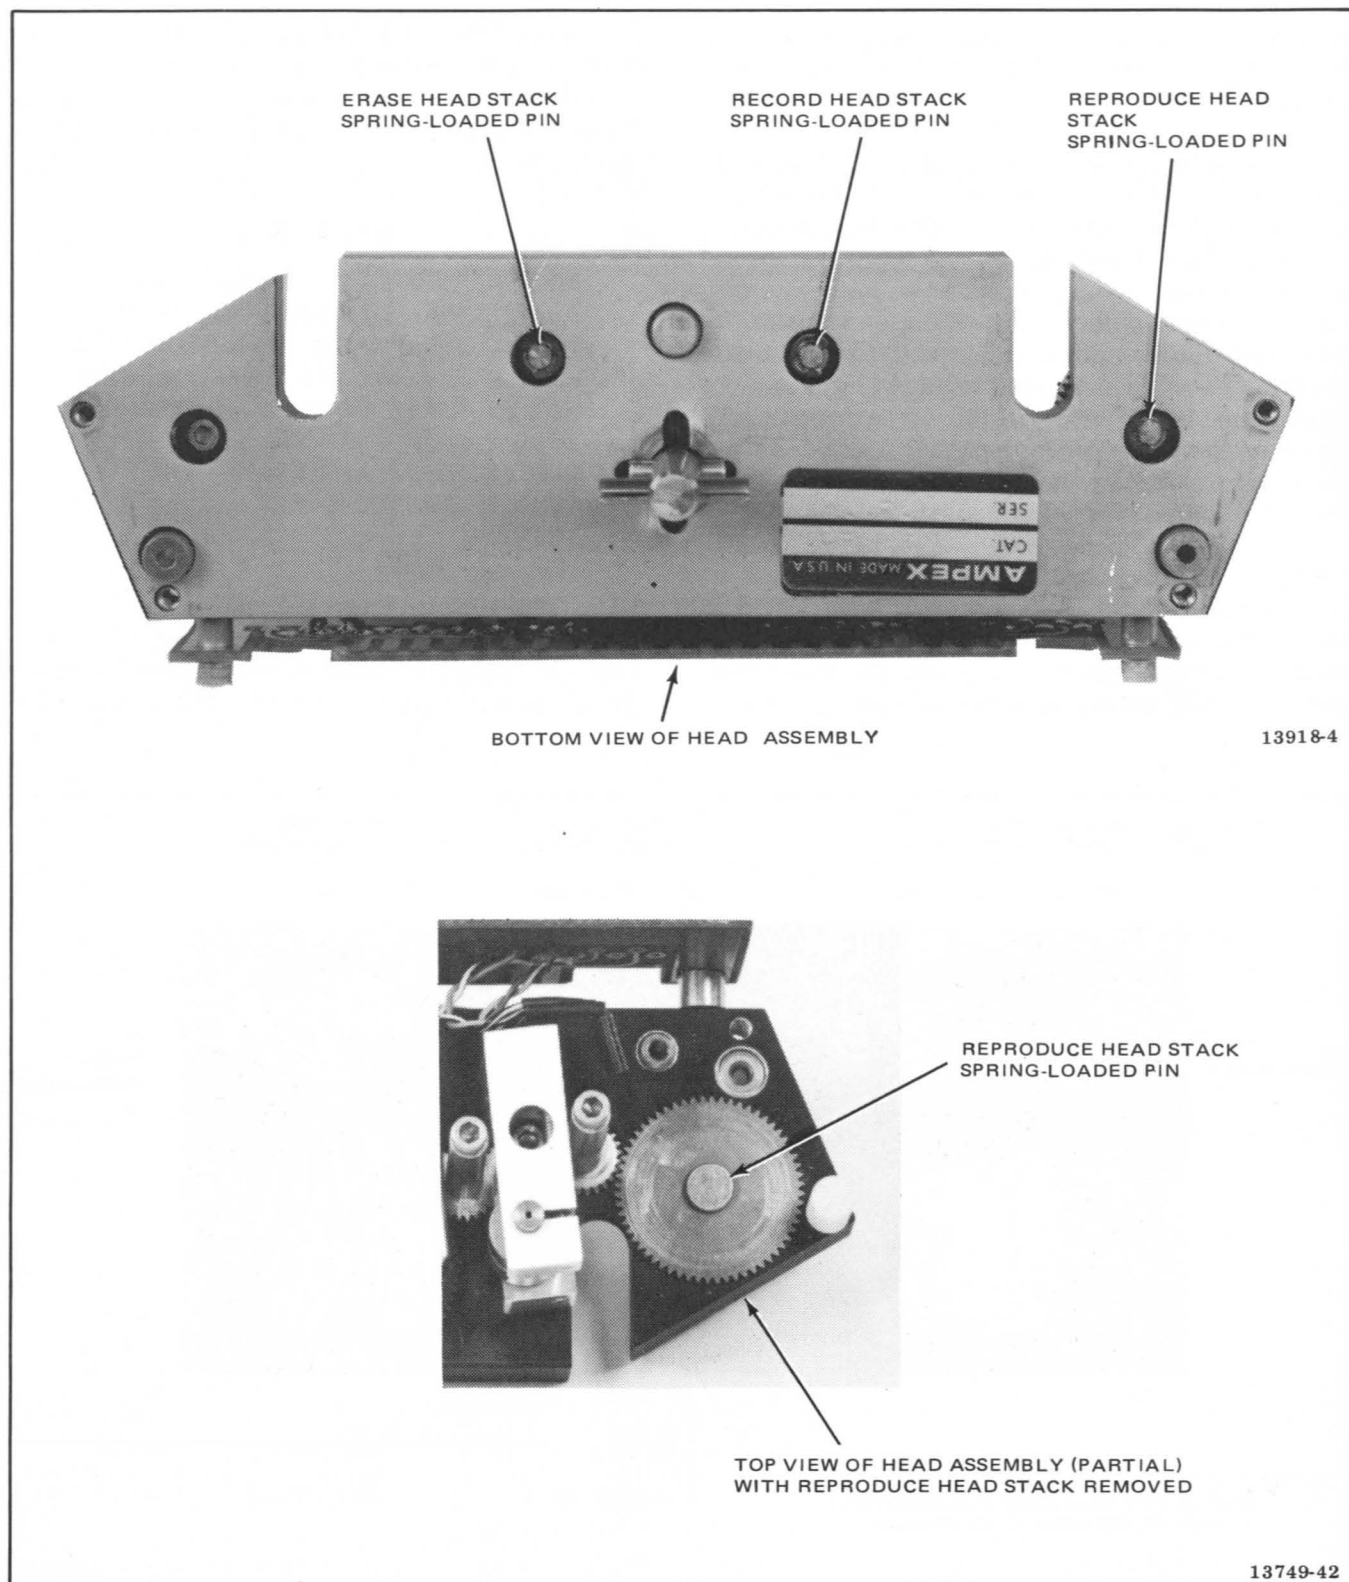

Figure 5-39. Head Assembly Spring Loaded Pin Locations, Main Head Shield Removed
6. Remove stack by pressing the spring-loaded pin (Figure 5-39), from underside of head base plate, and carefully sliding stack toward head connector PWA. When removing the reproduce head stack, rotate the stack on the pin to clear the head connector PWA.